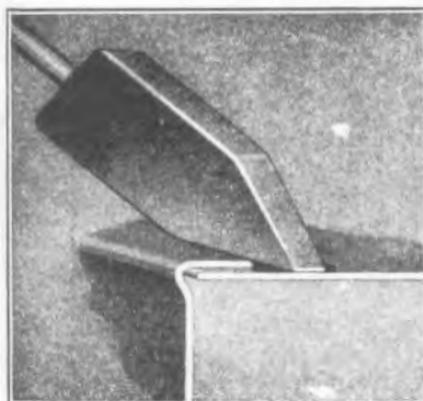
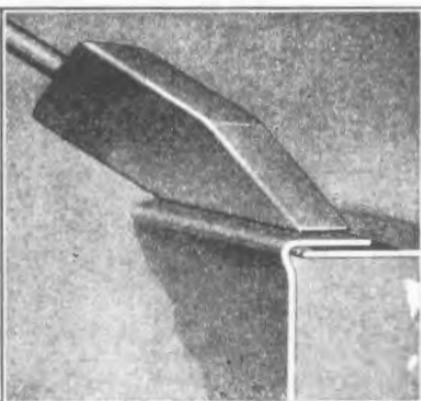

Fig. 399
Fig. 400
- 803 Next fit the two surfaces together. The closer they fit together, the easier the task of soldering and the less solder necessary to run a tight seam. The object of soldering is to hold the surfaces together and not to build up a wall of solder at the edge. It should be borne in mind that solder flows only on well heated surfaces, and that it will not flow up-hill. Fig. 399 shows the improper method of applying the iron. Here the iron is cocked against the edge of one surface, which prevents the solder from flowing between the surfaces and as a result considerable time is lost in running the seam. Fig. 400 shows the correct method. Here the iron is held flat against the upper sur-